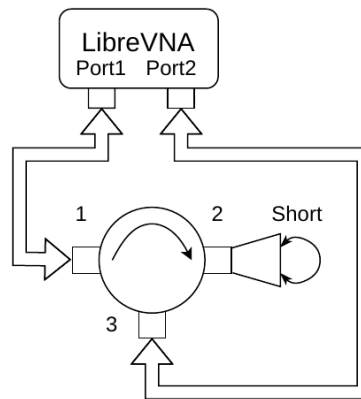

Figure 12: VNA connection with shorted port 2.
- For this measurement, we connect VNA's Port1 SMA-cable to circulator's port 1, VNA's Port2 SMA-cable to circulator's port 3 and connect short circuit to circulator's port 2. The set up would look like figure 12.